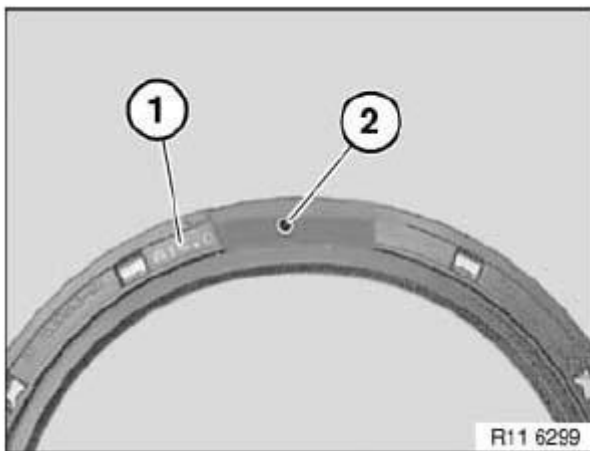

Fig. 87: Identifying Radial Seal Rubber Coating And Removal Opening
NOTE: If necessary, remove rubber coating (1) on top side of radial seal and expose a removal opening (2) (see Fig. 87).